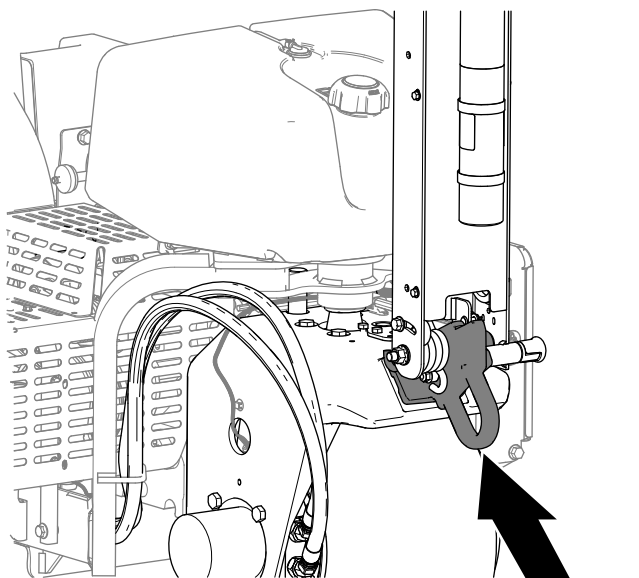

Figure 128
- If you tow the machine, pull it using the front tie-down hoop (Figure 128).